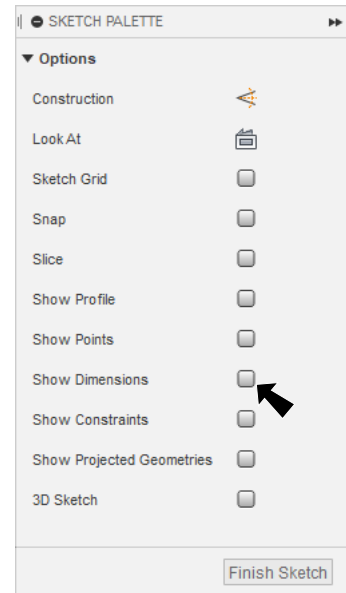

Fig. 5
Step 1. **Hide dimensions** in the Sketch Palette, **Fig. 5**.
Step 2. On the Sketch tab **SKETCH** click **Trim**  (T) in the Modify area of toolbar.